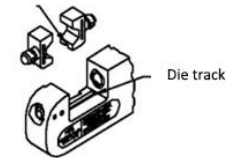

Figure 1
- (1). Align die rail slots in die halves with the rail in the crimp tool and push shank of dies into holes. Dies will snap into place. (See Figure 1)
- (2). Close tool handle to make sure dies are properly seated. The tool is now ready for use.